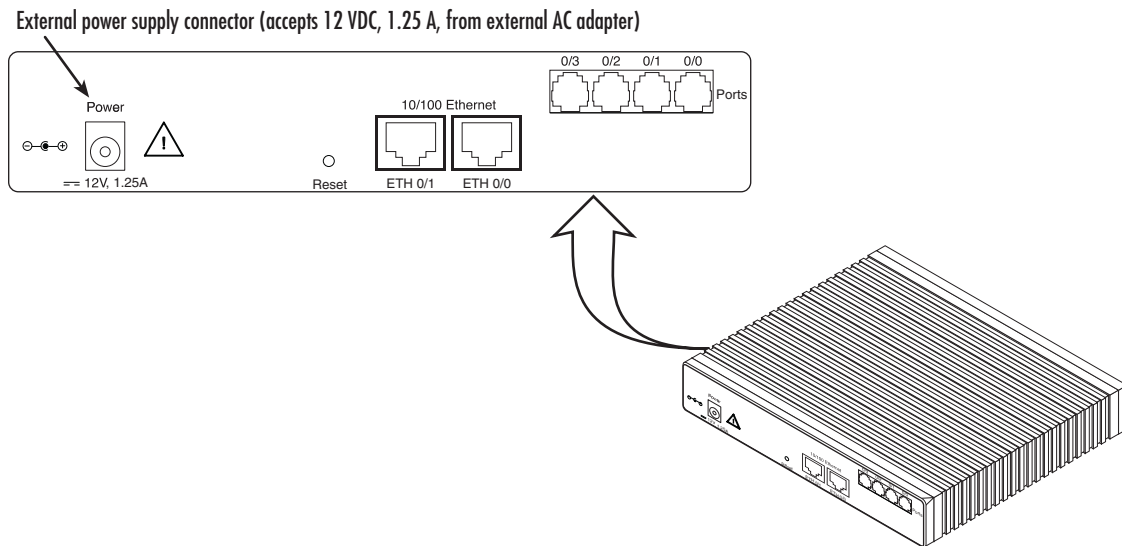

Figure 3. SmartNode 2294 power input connectors
- *EUI* stands for external universal input power supply (see figure 3)
| Power                                | Rear panel  | The gateway is available in a DC or AC power input version (see <a href="#">figure 3</a> ), labeled as follows: <ul style="list-style-type: none"> <li>• AC version (Internal power supply): 100–240 VAC, 50/60 Hz, 200 mA</li> <li>• DC version: 12 VDC, 1.25 A</li> </ul> |